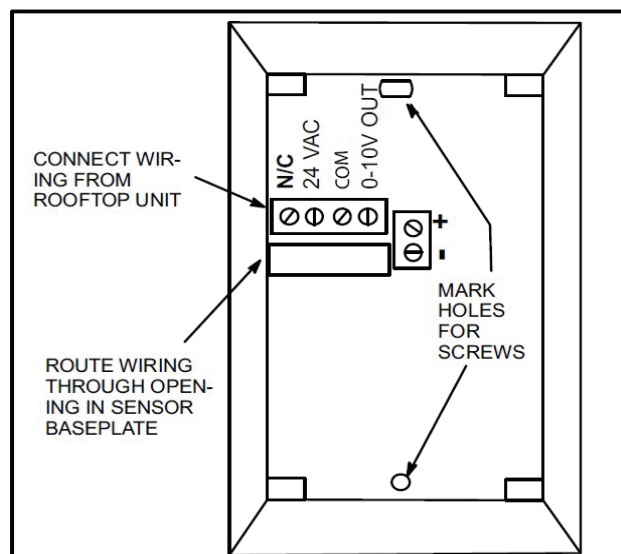

Figure 4. Wall-Mount Sensor Baseplate
4. Mark holes for screws (see figure 4).